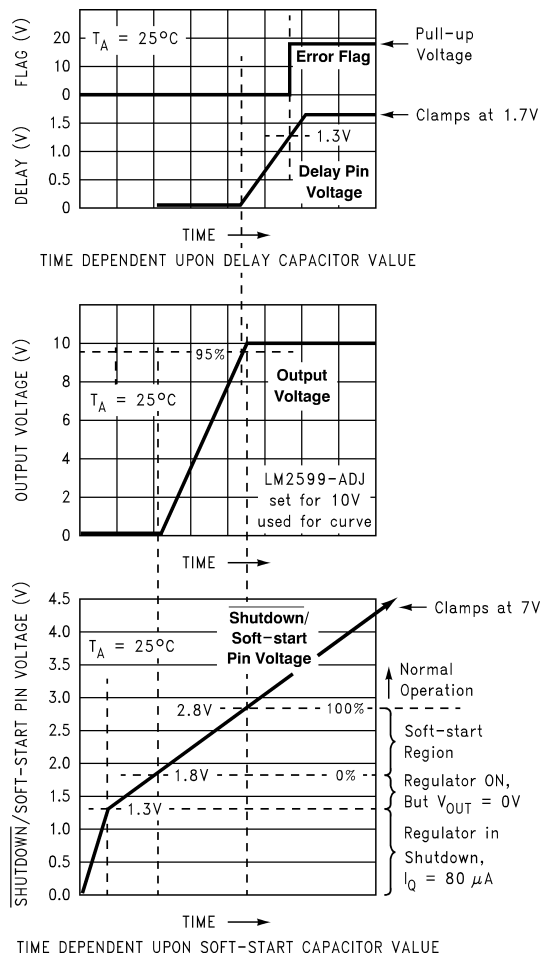
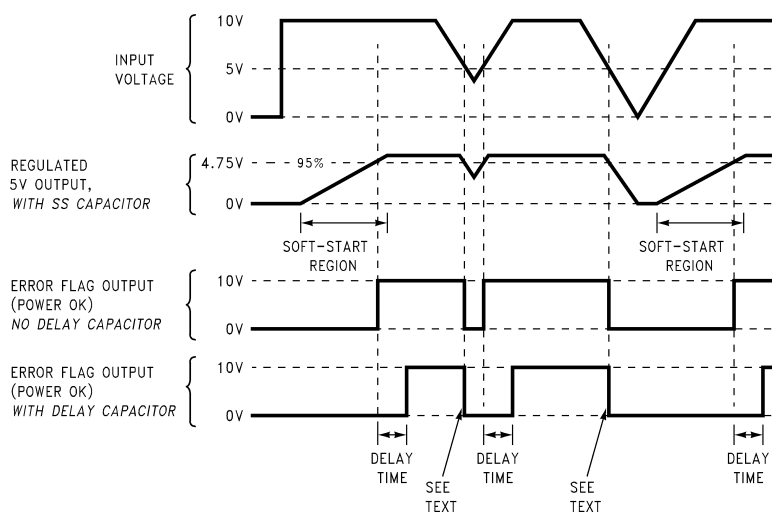

Figure 28. Soft-Start, Delay, Error, Output
Figure 29. Timing Diagram for 5-V Output
The capacitor on this pin provides the regulator with a soft-start feature (slow start-up). When the DC input voltage is first applied to the regulator, or when the Shutdown/Soft-start pin is allowed to go high, a constant current (approximately 5 μ A) begins charging this capacitor). As the capacitor voltage rises, the regulator goes through four operating regions (see the bottom curve in Figure 28):
3. Soft-start Region: When the $\overline{SD/SS}$ pin voltage is between 1.8 V and 2.8 V (at 25°C), the regulator is in a soft-start condition. The switch (Pin 2) duty cycle initially starts out very low, with narrow pulses and gradually get wider as the capacitor $\overline{SD/SS}$ pin ramps up towards 2.8 V. As the duty cycle increases, the output voltage also increases at a controlled ramp up (see the center curve in Figure 28). The input supply current requirement also starts out at a low level for the narrow pulses and ramp up in a controlled manner. This is a very useful feature in some switcher topologies that require large start-up currents (such as the inverting configuration) which can load down the input power supply.
The lower curve shown in Figure 28 shows the soft-start region from 0% to 100%. This is not the duty cycle percentage, but the output voltage percentage. Also, the soft-start voltage range has a negative temperature coefficient associated with it. See the soft-start section in Electrical Characteristics – All Output Voltage Versions.
This capacitor provides delay for the error flag output (see Figure 28 and Figure 29). A capacitor on this pin provides a time delay between the time the regulated output voltage (when it is increasing in value) reaches 95% of the nominal output voltage, and the time the error flag output goes high. A 3- μA constant current from the delay pin charges the delay capacitor resulting in a voltage ramp. When this voltage reaches a threshold of approximately 1.3 V, the open-collector error flag output (or power OK) goes high. This signal can be used to indicate that the regulated output has reached the correct voltage and has stabilized.